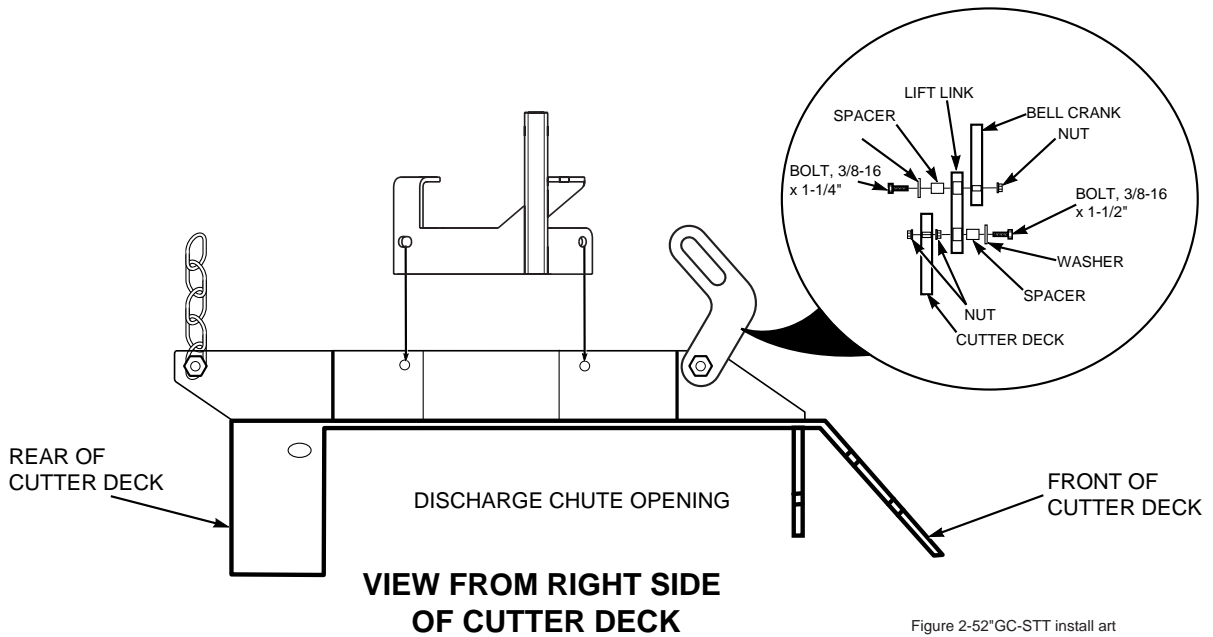

FIGURE 3-3
6. Install the blower mounting bracket to the deck using 1/2-13 x 1-1/2" hex head bolts (p/n 04001-71), 1/2" spring lockwashers (p/n 04030-06), and 1/2-13 elastic stop nuts (p/n 04021-07). See Figure 3-3, Page 3. Do not fully tighten the hardware at this time.
7. Block the right front side on the cutter deck and remove the hang chain. Install the deck lift link. Secure using hex head bolts (p/n 04001-32, 04001-20), flatwashers (p/n 04041-07), spacers (p/n 43212), and serrated flange nuts (p/n 04019-04). See Figure 3-3.